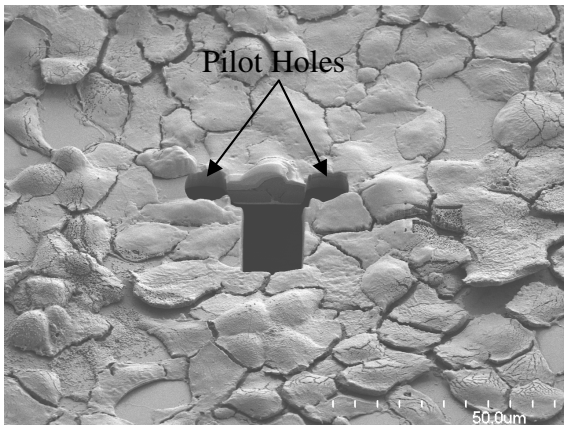

Figure 2: SEM of cell-covered patch-clamp chip following backside registration holes drilling and FIB section of the microhole-attached cell.
- The position can be registered by drilling 5 μm pilot holes (Figure 2) from the backside with the Focused Ion Beam (FIB) on either side of the microhole through the substrate and cell layer. The microhole can then be located for cross-sectioning by the FIB.